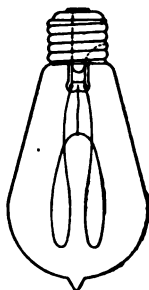

FIG. 273.—A carbon filament incandescent lamp.
**294. The Incandescent Lamp.**—One of the most common devices employing the heat effect of an electric current is the *incandescent lamp*. (See Fig. 273.) In this lamp the current is sent through a carbon filament,